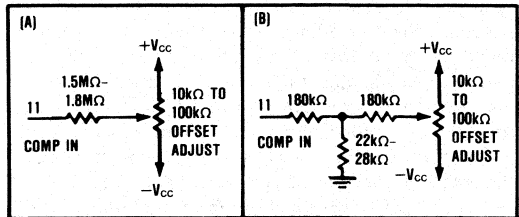

FIGURE 4. Two Methods of Connecting Optional Offset Adjust.
Gain and offset errors may be trimmed to zero using external offset and gain trim potentiometers connected to the ADC80H as shown in Figures 4 and 5 for both unipolar and bipolar operation. Multiturn potentiometers with 100ppm/ $^{\circ}C$  or better TCR are recommended for minimum drift over temperature and time. These
**OFFSET**—Connect the offset potentiometer as shown in Figure 4. Set the input voltage to the nominal zero or minus full-scale voltage plus 1/2LSB. For example, referring to Table I, this value is  $-10V + 2.44mV$  or  $-9.99756V$  for the  $-10V$  to  $+10V$  range.